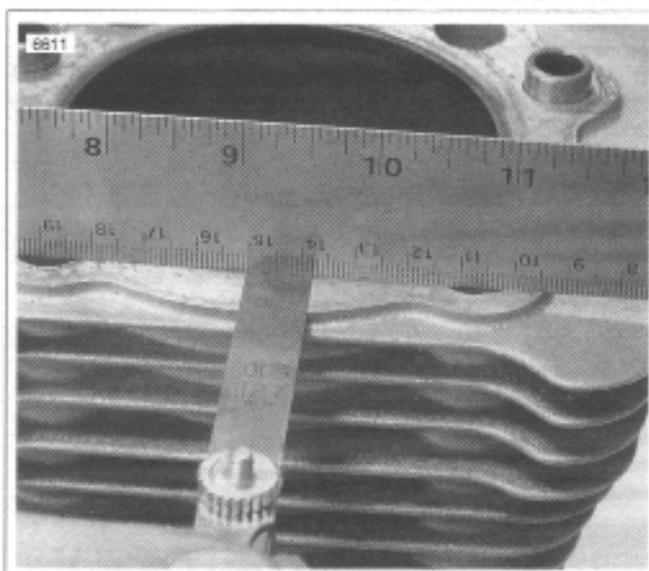

Figure 3-95. Checking Gasket Surfaces
1. See Figure 3-95. Check cylinder head gasket surface for flatness.